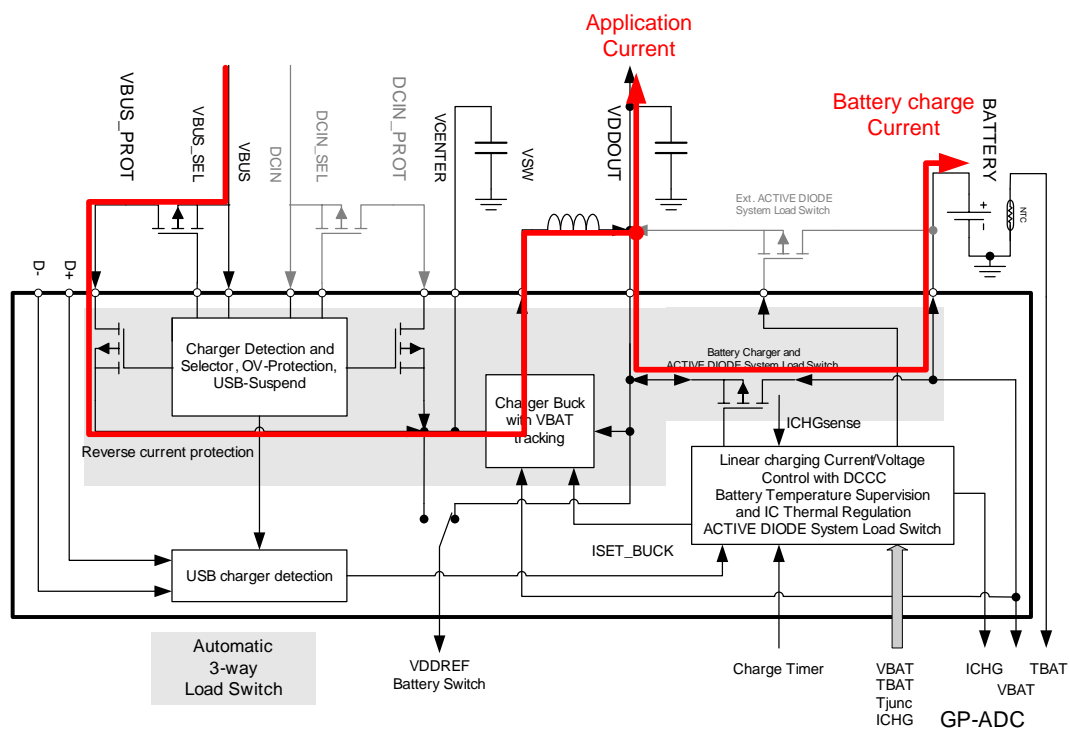

Figure 9: ISET_BUCK value is higher than (Application + Charging) current
- A. If the combined load does not exceed the input current limit ISET_BUCK, then the charger buck delivers the needed load current without restrictions. In addition, the VDDOUT voltage will be regulated to 250 mV higher than VBAT to minimize the power consumption of the linear charger stage (see Figure 9).